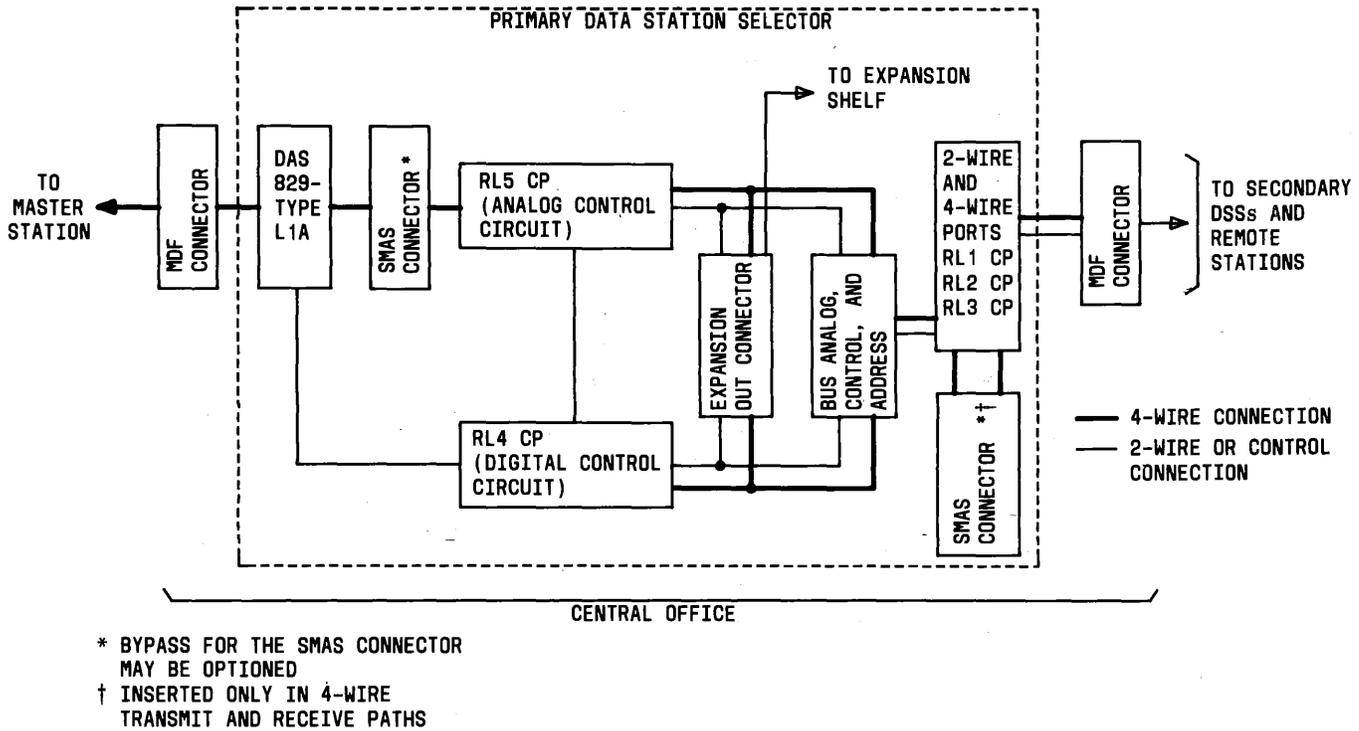

Fig. 24—Functional Block Diagram of DSS Equipped For Sequential Offering
5.02 Fig. 24 shows a primary DSS equipped for the sequential offering. In the auto-step DSS option, the master station only monitors DSS operation. The RL4 CP (DCC) generates the control logic automatically to set up a polling link. The